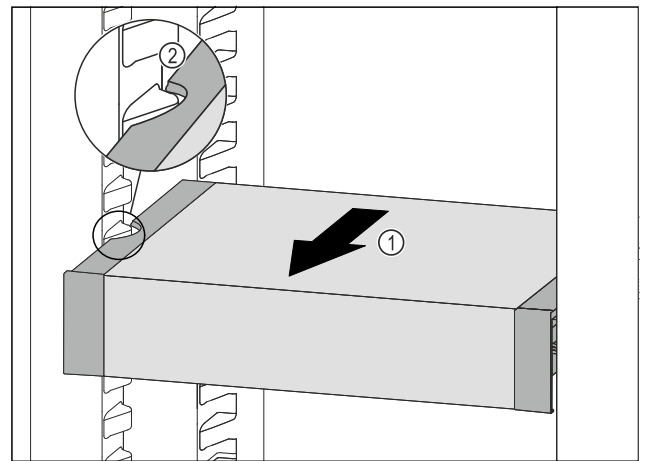

Fig. 98
- ▶ Pull VarioSafe forwards *Fig. 98 (1)* until the recesses in the side of the VarioSafe are at the level of the support rib in the fridge section. *Fig. 98 (2)*